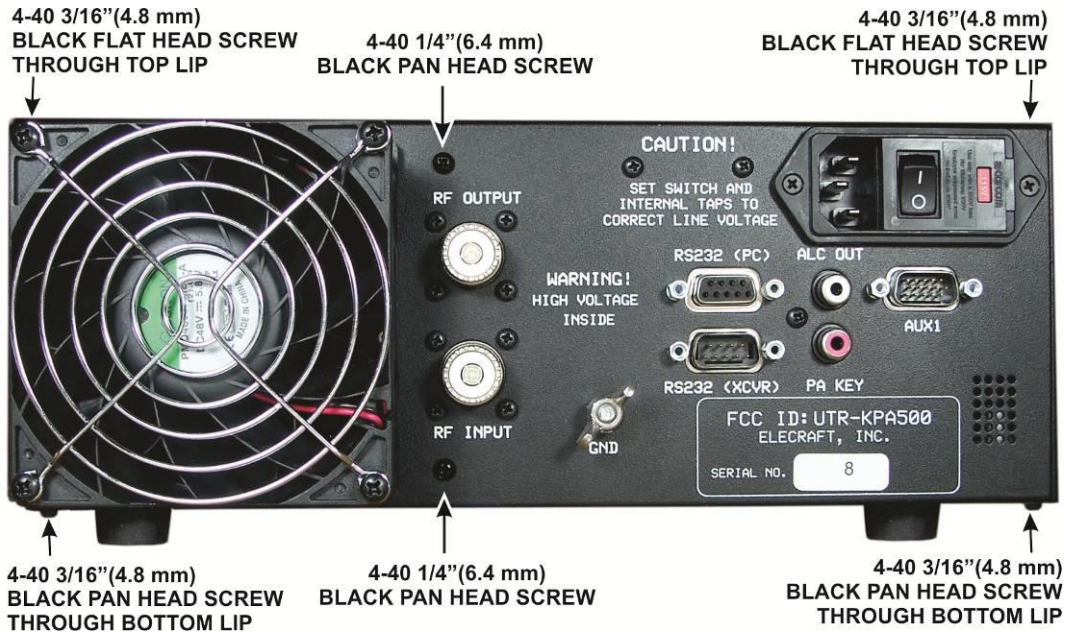

Figure 39. Mounting the Rear Panel Assembly on the KPA500 Chassis.
□ Mount the rear panel assembly on the back of the KPA500 as shown in Figure 39. It may be easier to set the KPA500 on a side panel so you can adjust the fit on the top and bottom at the same time and get it to clear the Z-bracket assembly on the bottom. Secure the assembly with six screws as shown.